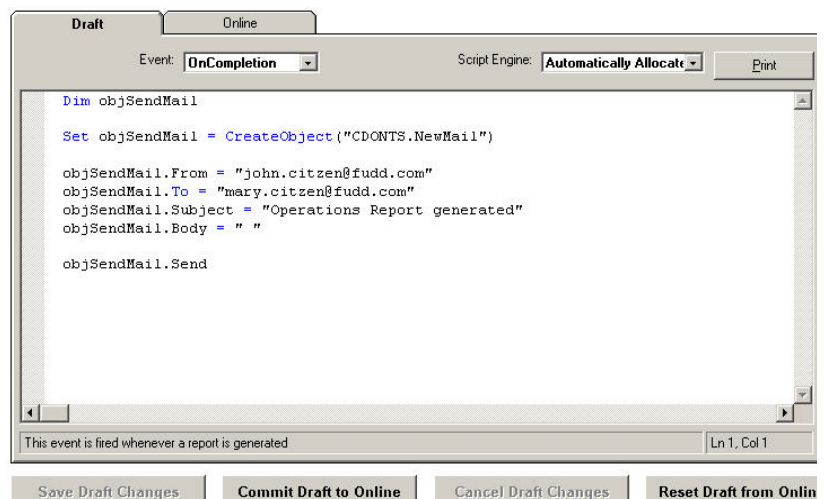

Figure 3. Server Scripting Editor
- Generating and Emailing Reports (see Figure 3)